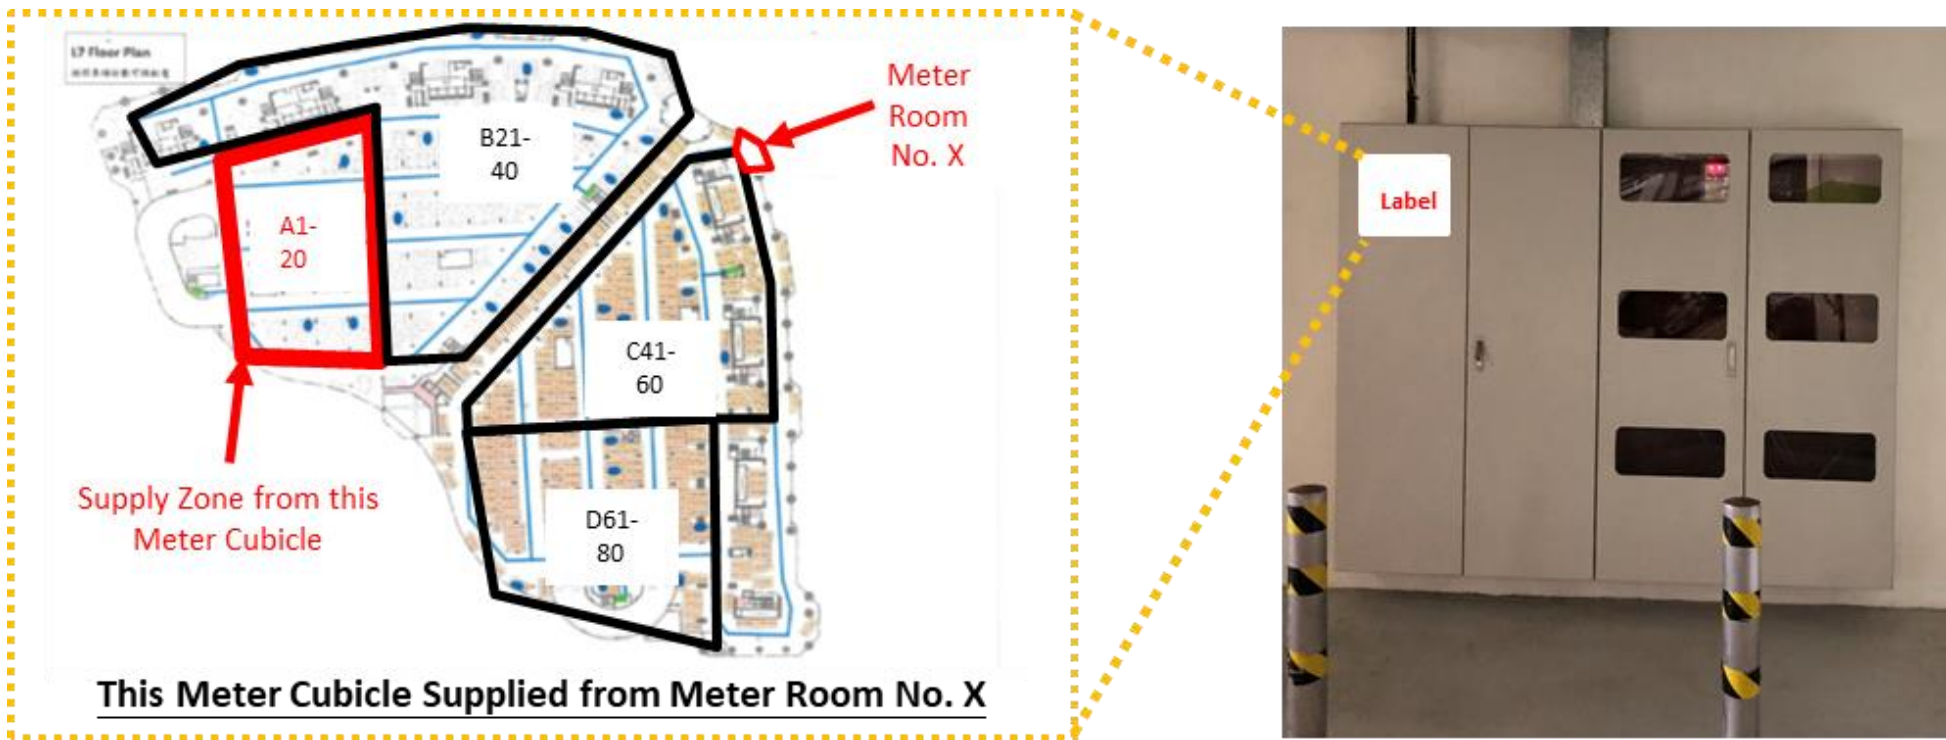

Fig. 4 – EV Charging Facilities Supply Zone Layout
- 4.4.2 EV Charging Facilities Supply Zone Layout (Fig. 4) shall be posted outside the Meter Cubicle.